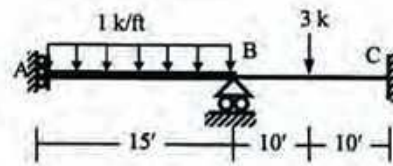

Fig. 2
2. Use Stiffness Method (neglecting axial deformations) to calculate the joint deflection and rotation of the beam shown in *Fig. 2* [Given: $EI_{AB} = 40 \times 10^3 \text{ k-ft}^2$, $EI_{CD} = 20 \times 10^3 \text{ k-ft}^2$].
11. For the beam shown in *Fig. 2*, calculate the approximate first natural frequency in transverse direction using consistent mass matrices [Given, $EI = 54 \times 10^3 \text{ k-ft}^2$, $m = 0.0045 \text{ k-sec}^2/\text{ft}^2$].
2. Use Stiffness Method (neglecting axial deformations) to calculate the joint deflection and rotation of the beam shown in *Fig. 2* [Given: $EI_{AB} = 40 \times 10^3$ k-ft², $EI_{CD} = 20 \times 10^3$ k-ft²].
11. For the beam shown in *Fig. 2*, calculate the approximate first natural frequency in transverse direction using consistent mass matrices [Given: $EI = 54 \times 10^3$ k-ft², $m = 0.0045$ k-sec²/ft²].